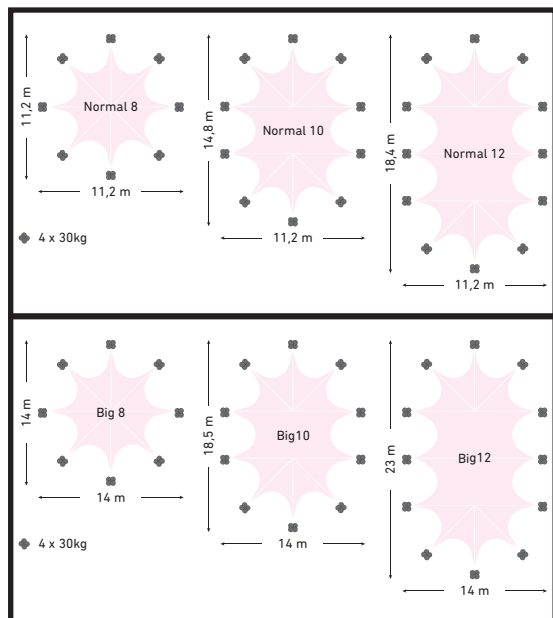

Fig. 1
1. Choose a flat even spot where you want to pitch the tent. Make sure the spot is big enough to do it (check the dimensions given in a corresponding picture - Fig. 1).